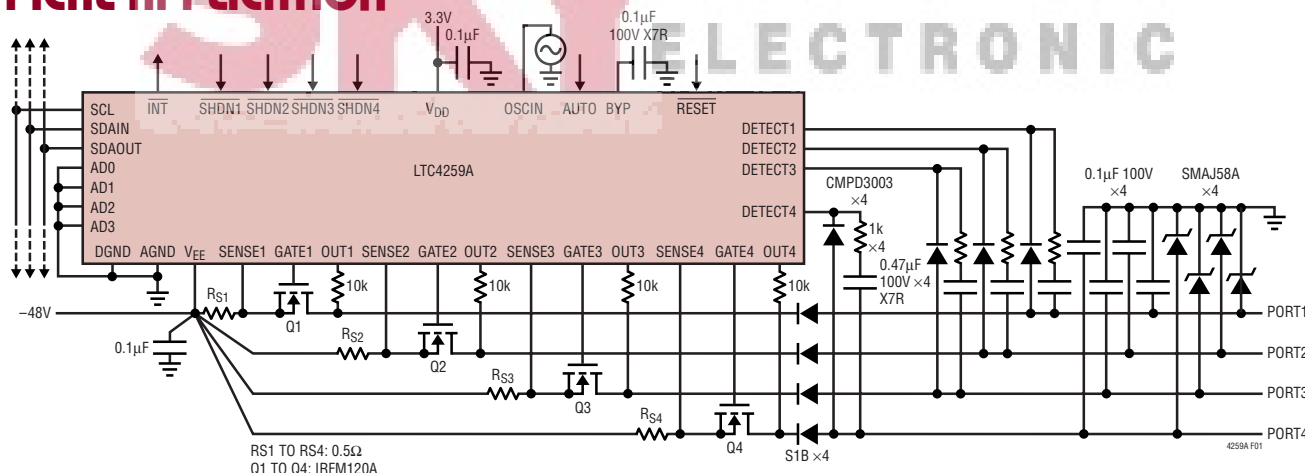

Figure 1. Complete 4-Port Powered Ethernet Power Source
The LTC®4259A is a quad –48V Hot Swap™ controller designed for use in IEEE 802.3af compliant Power Sourcing Equipment (PSE). It consists of four independent ports, each with output current limit, short-circuit protection, complete Powered Device (PD) detection and classification capability, and programmable PD disconnect using AC or DC sensing. Used with power MOSFETs and passives as in Figure 1, the LTC4259A can implement a complete IEEE 802.3af-compliant PSE.